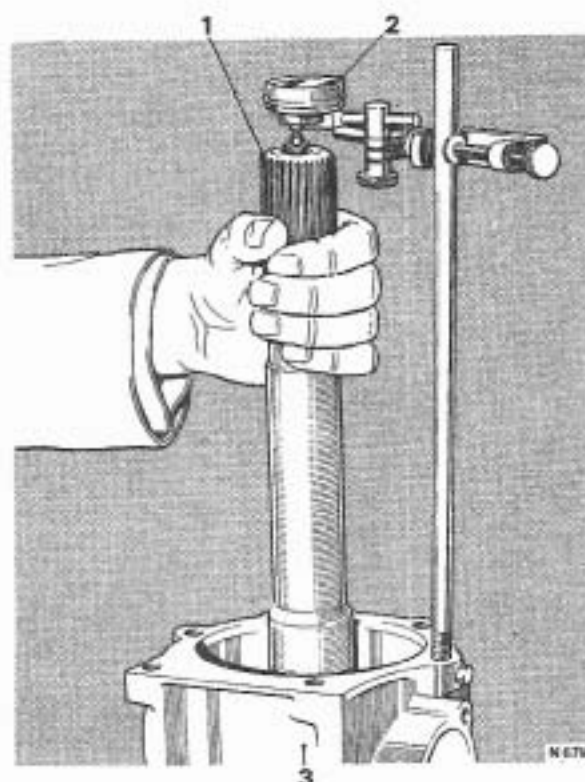

FIG. T242 CHECKING REAR UNIT END FLOAT
3. Mount a dial test indicator onto the bolt so that the indicator stem registers with the end of the output shaft (see Fig. T242).